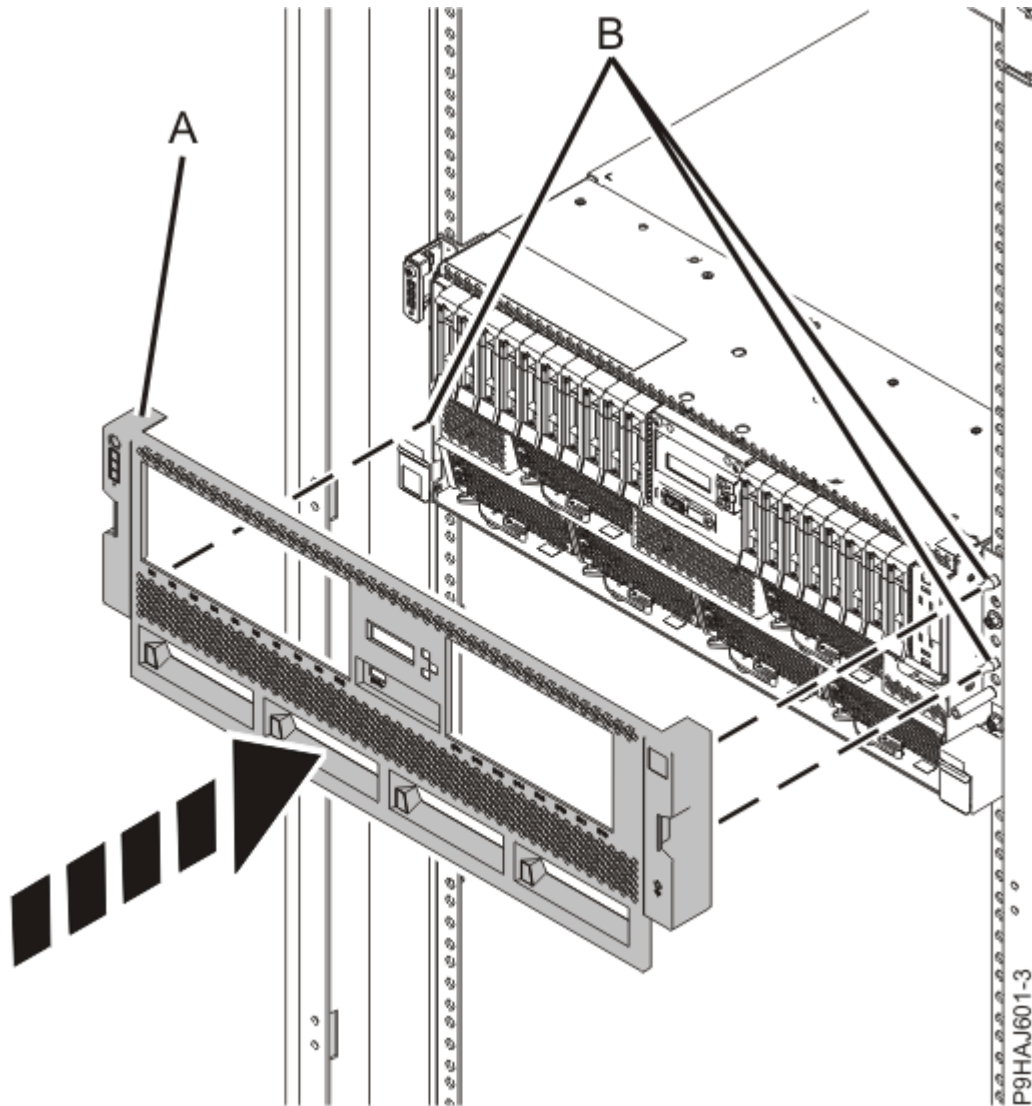

*Figure 87. Placing the system into the operating position*
3. For a rack-mounted system, unlock the blue rail safety latches (**A**) as shown in Figure 87 on page 91 by pushing them inward.